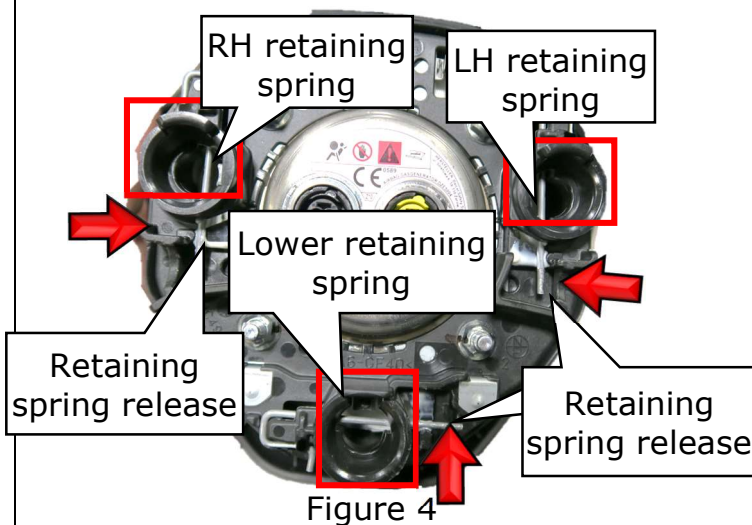
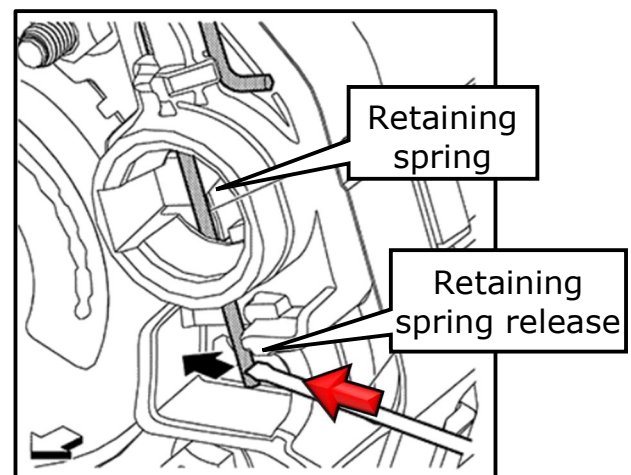

Figure 4
Figure 5
- The Driver airbag is secured to the steering wheel with (3) retaining springs.
- To remove the airbag, each of the retaining springs must be pushed inward with a narrow flat blade screwdriver (Figure 4) (Figure 5)